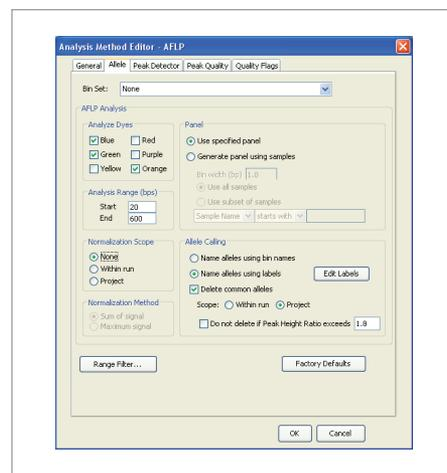

Figure 7. Configuring the Settings in the Allele Tab.
14. Select the Allele tab and configure the settings as shown in Figure 7.